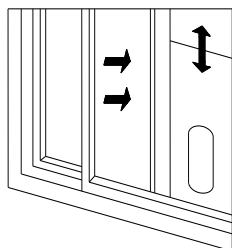

Figure 3
- 1) Make the window half open, put the seal-plate into window, either in vertical or horizontal position. (As Figure 3 and 4)